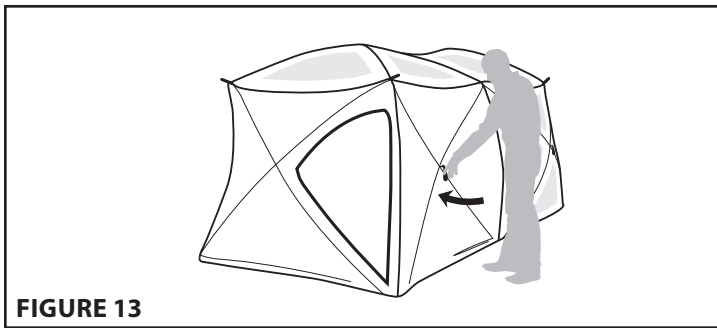

FIGURE 13
6. Move to the outside of the tent and zip all doors and wind panels shut to prevent tangling of poles. Push inward on each of the side walls to collapse them. [**SEE FIGURE 13**]